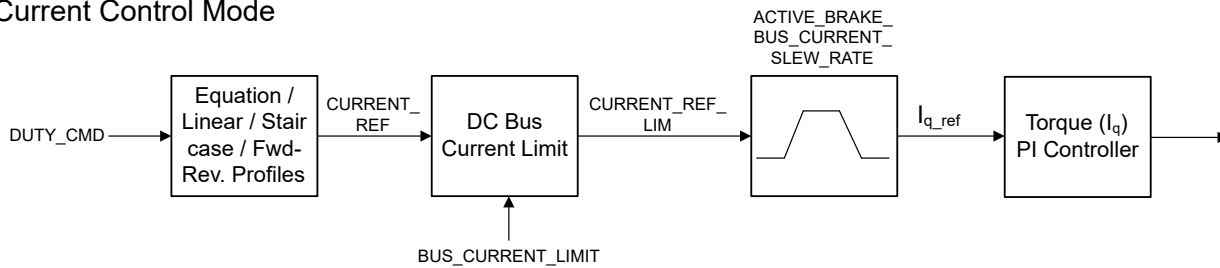

Figure 7-48. DC Bus Current Limit
The DC bus current limit feature can be used to limit the current supplied by the DC input source (VM). This feature can be enabled by setting `BUS_CURRENT_LIMIT_ENABLE` to 1b. The DC bus current limit can be configured using `BUS_CURRENT_LIMIT`. This feature limits the DC bus current by limiting the speed (`SPEED_REF_LIM`)/current (`CURRENT_REF_LIM`) reference as shown in Figure 7-48. Enabling this feature may restrict the speed/phase current of the motor from reaching the set point (`SPEED_REF` or `CURRENT_REF`) in order to limit the DC bus current. The DC bus current limit status is reported on `BUS_CURRENT_LIMIT_STATUS`.